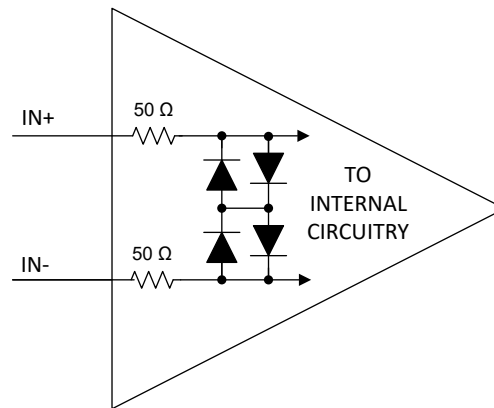

图 7-1. Input Stage Circuitry
The TLV380x/TLV3811(C) feature an input stage, capable of operating between 1.5 V above VEE (GND for TLV3811(C)) and 0.1 V above VCC, with an internal ESD protection circuit that includes two pairs of front-to-back diodes between IN+ and IN- as well as two 50 Ω resistors, as shown in 图 7-1. This prevents damage to the input stage by limiting the differential input voltage to be no more than twice the diode's forward-voltage drop $2 \times V_F$ (2×0.7 V).